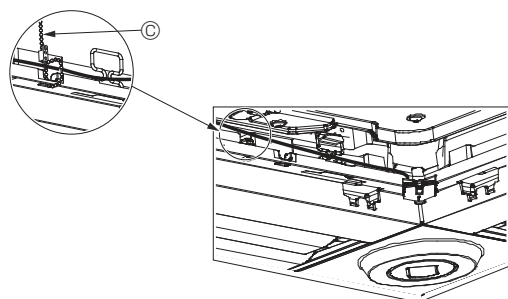

Fig. 10-12
- Secure the i-See sensor and signal receiver wires to the panel with the fastener as shown in the diagram so that there is no slack in the wires, and then cut off the excess end of the fastener. (Fig.10-12)
- If the position of the i-See sensor was changed from the "○" position (E) to the "□" position (F), change the function settings. (Refer to page 14.)